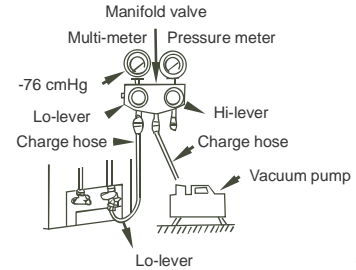

Fig.8-7
3. Using the vacuum pump (Refer to Fig.8-7)